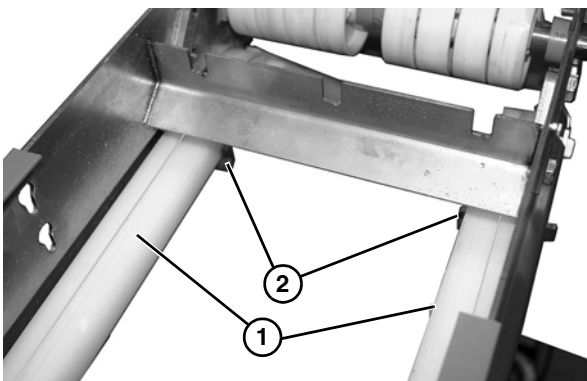

Figure 34
2. Install belt return (Figure 34, item 1) onto mounting bracket (Figure 34, item 2).